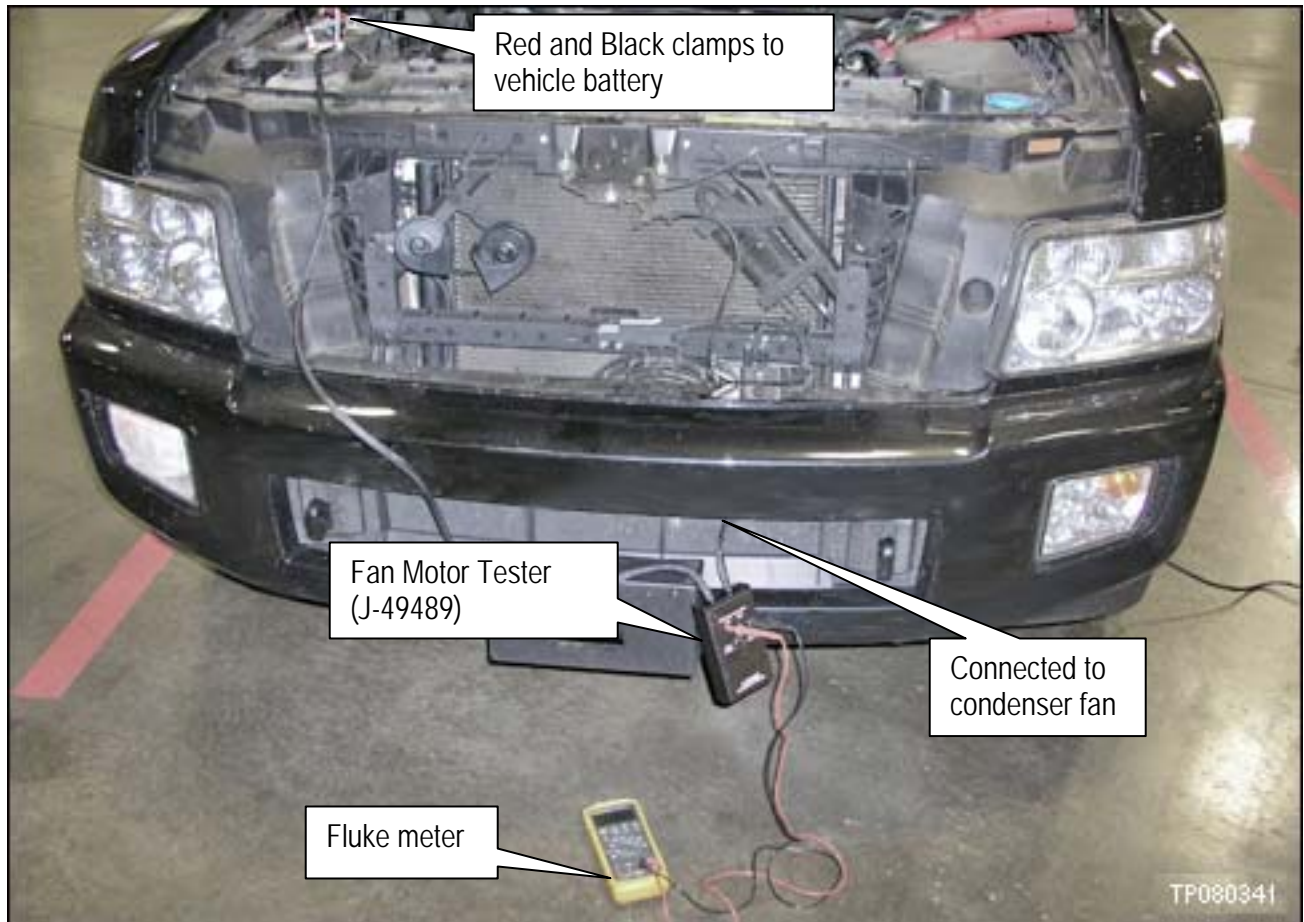

Figure B-4
6. Connect the Fan Motor Tester and the Fluke Digital Multimeter (using the fluke meter test leads) as follows (see Figure B-4):